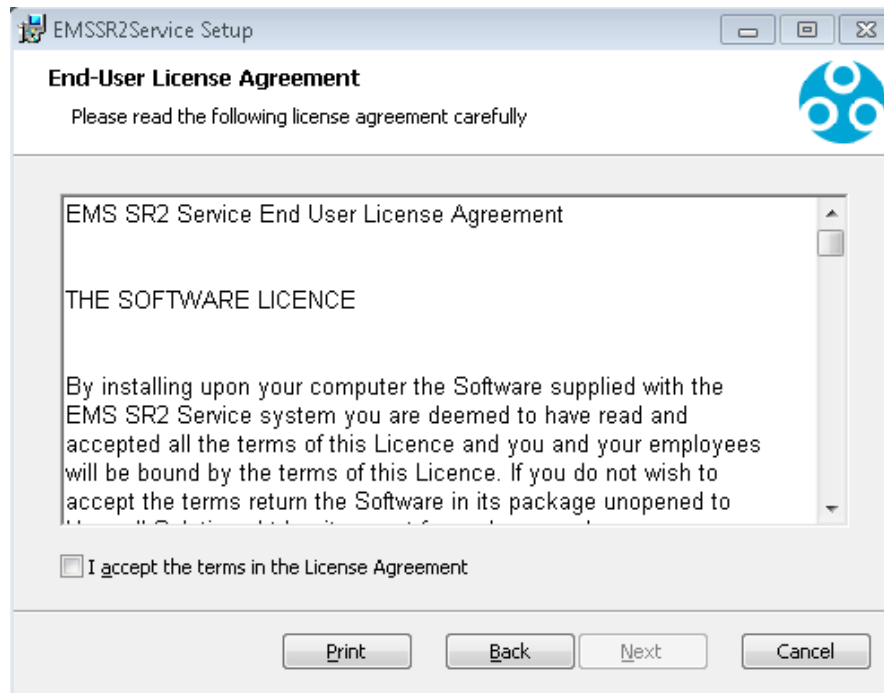

Figure 71
2. Read the **End User Licence Agreement**. See Figure 71 below: